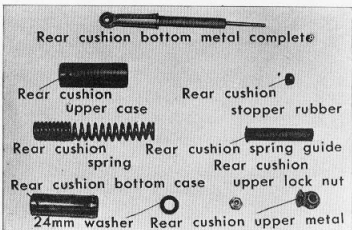

Figure 4-15. Component parts of rear cushion
- (1) Remove the rear cushion assembly by loosening the upper and lower cap nuts. (Fig. 4-15)
- (2) Disassemble the rear cushion component parts.